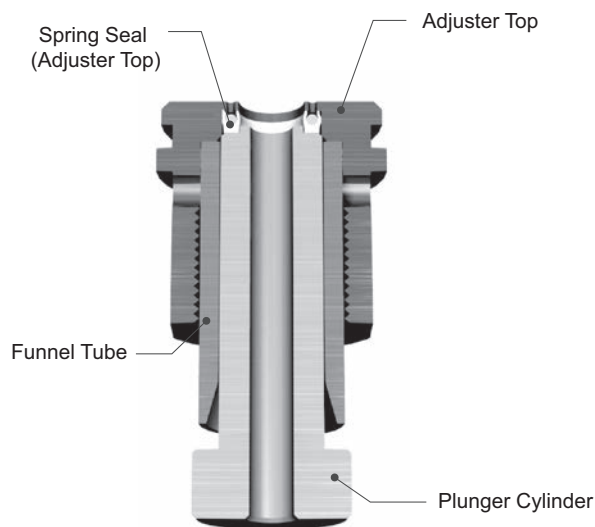

Figure 57: Plunger Cylinder
- vi. Push down on Plunger cylinder to insert Spring Seal (Adjuster Top) into Adjuster Top as shown in Figure 57.
- vii. Push down on Plunger cylinder to insert Spring Seal (Adjuster Top) into Adjuster Top as shown in Figure 57.